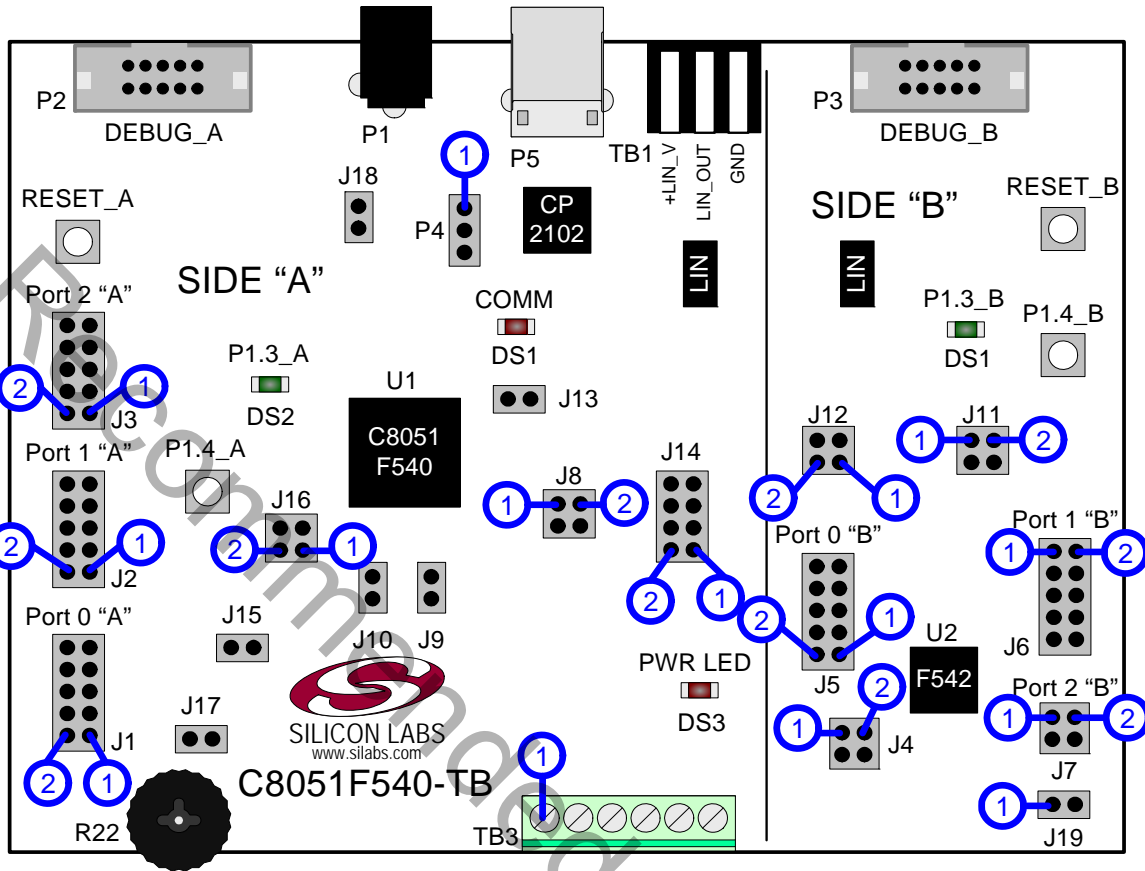
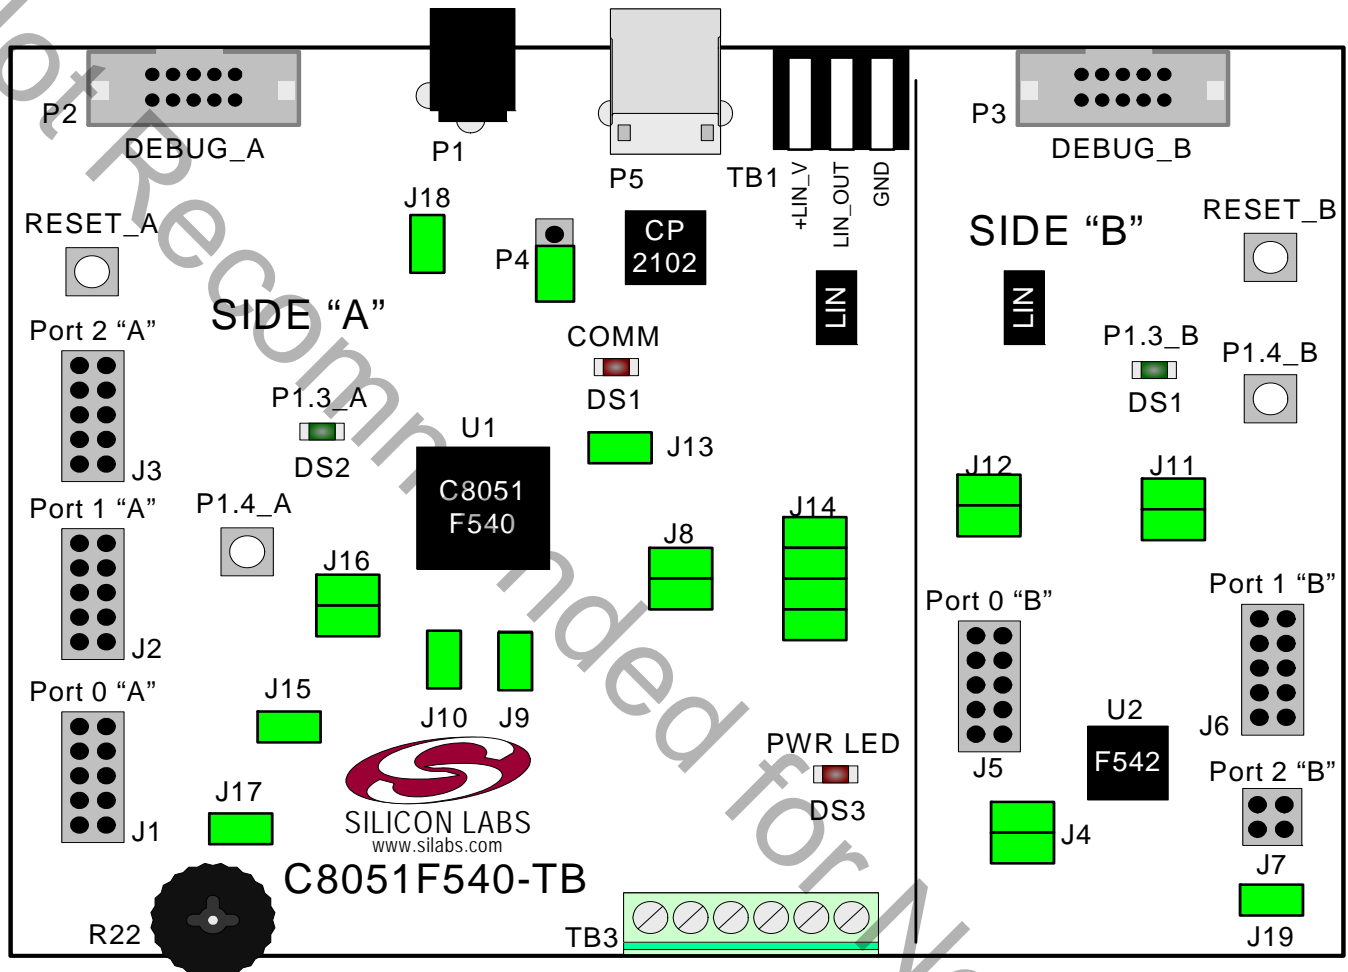

Figure 4. C8051F540 Target Board with Pin Numbers
Figure 5. C8051F540 Target Board Shorting Blocks: Factory Defaults
3. Verify that shorting blocks are installed on the target board as shown in Figure 5 on page 7.
The C8051F540 Development Kit includes a target board with a **C8051F540** (Side A) and **C8051F542** (Side B) device pre-installed for evaluation and preliminary software development. Numerous input/output (I/O) connections are provided to facilitate prototyping using the target board. Refer to Figure 4 for the locations of the various I/O connectors. Figure 5 on page 7 shows the factory default shorting block positions. A summary of the signal names and headers is provided in Table 9 on page 13.
The C8051F540 Target Board comes from the factory with pre-installed shorting blocks on many headers. Figure 5 shows the positions of the factory default shorting blocks.